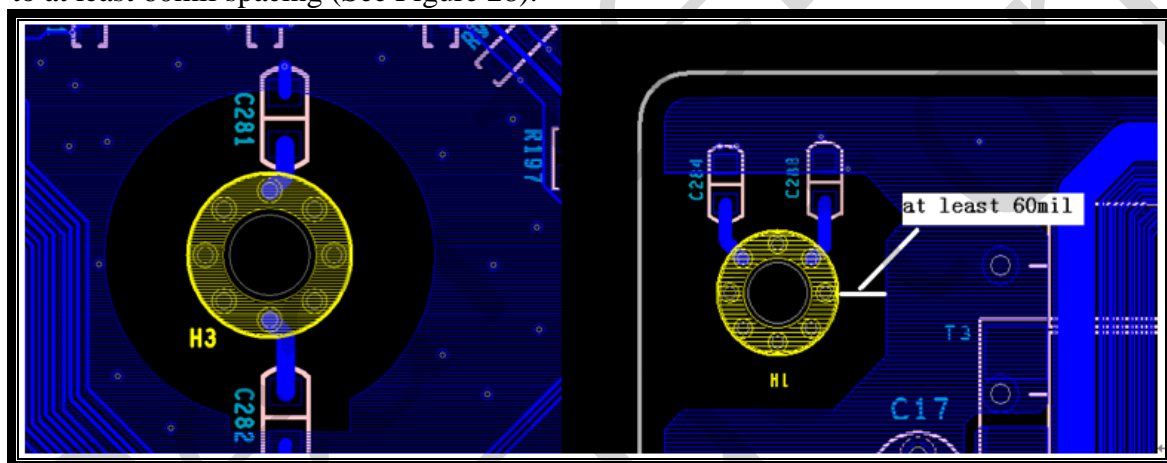

Figure 28. The screw holes in system GND region
- ✚ The screw holes in system need two 0.1uF capacitance to connect with system GND, and keep to at least 60mil spacing (See Figure 28).